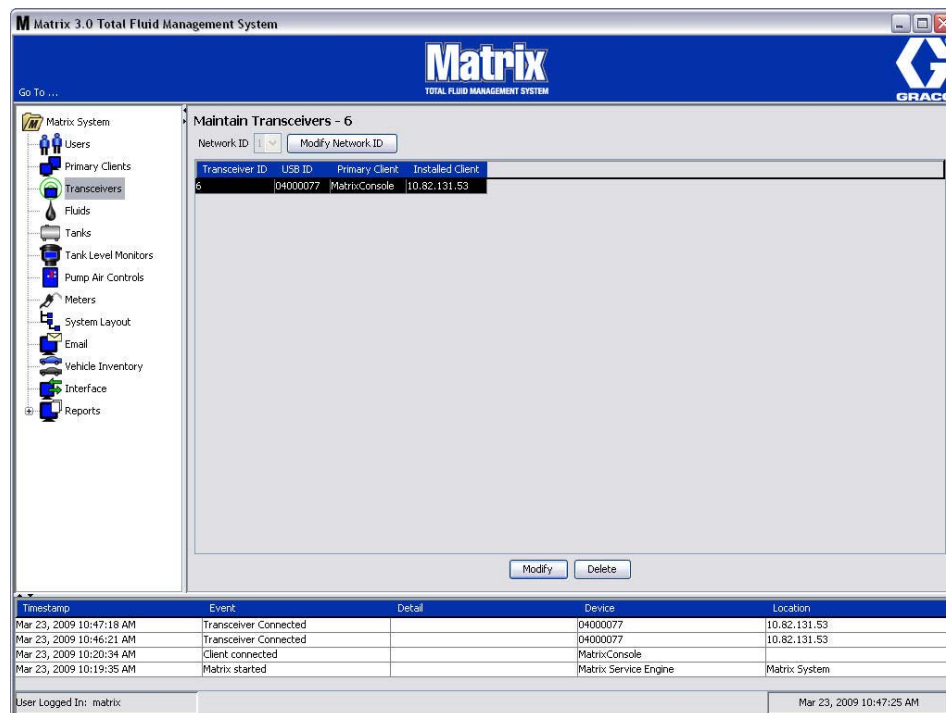
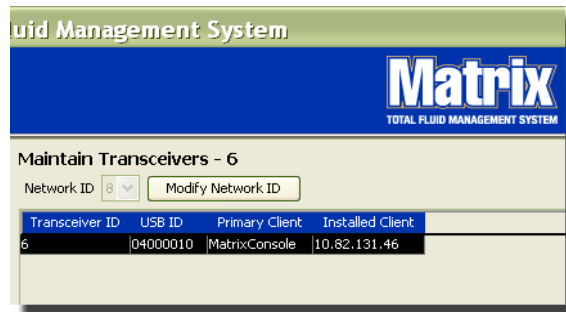

FIG. 98
FIG. 99
The Transceiver screen shown in FIG. 98 is used to:
2. To set the Network ID, select the Modify Network ID button shown in FIG. 99.
4. The Network ID number selected now displays on the top of the Transceiver screen in the Network ID field as shown in FIG. 98 and FIG. 99.